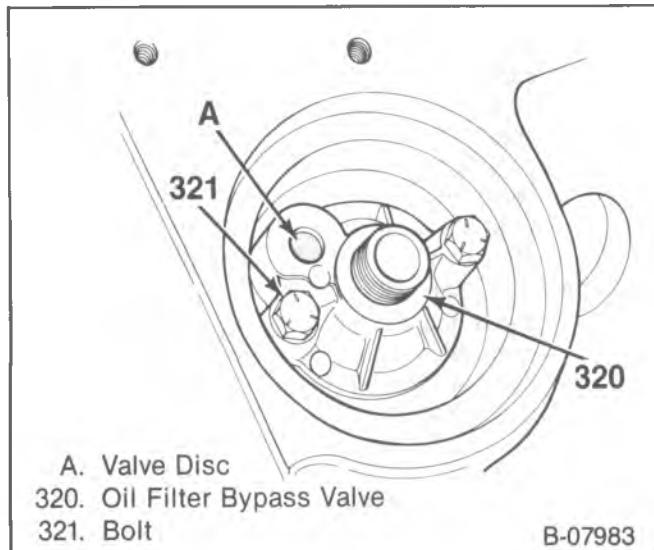

Figure 49—Oil Filter Bypass Valve
Disassemble (Figure 49)
**Inspect (Figure 49)**
**Assemble (Figure 49)**
1. Oil filter bypass valve (320).
2. Bolts (321).
- Bolts (321) to 9.0 N·m (80 in. lbs.).